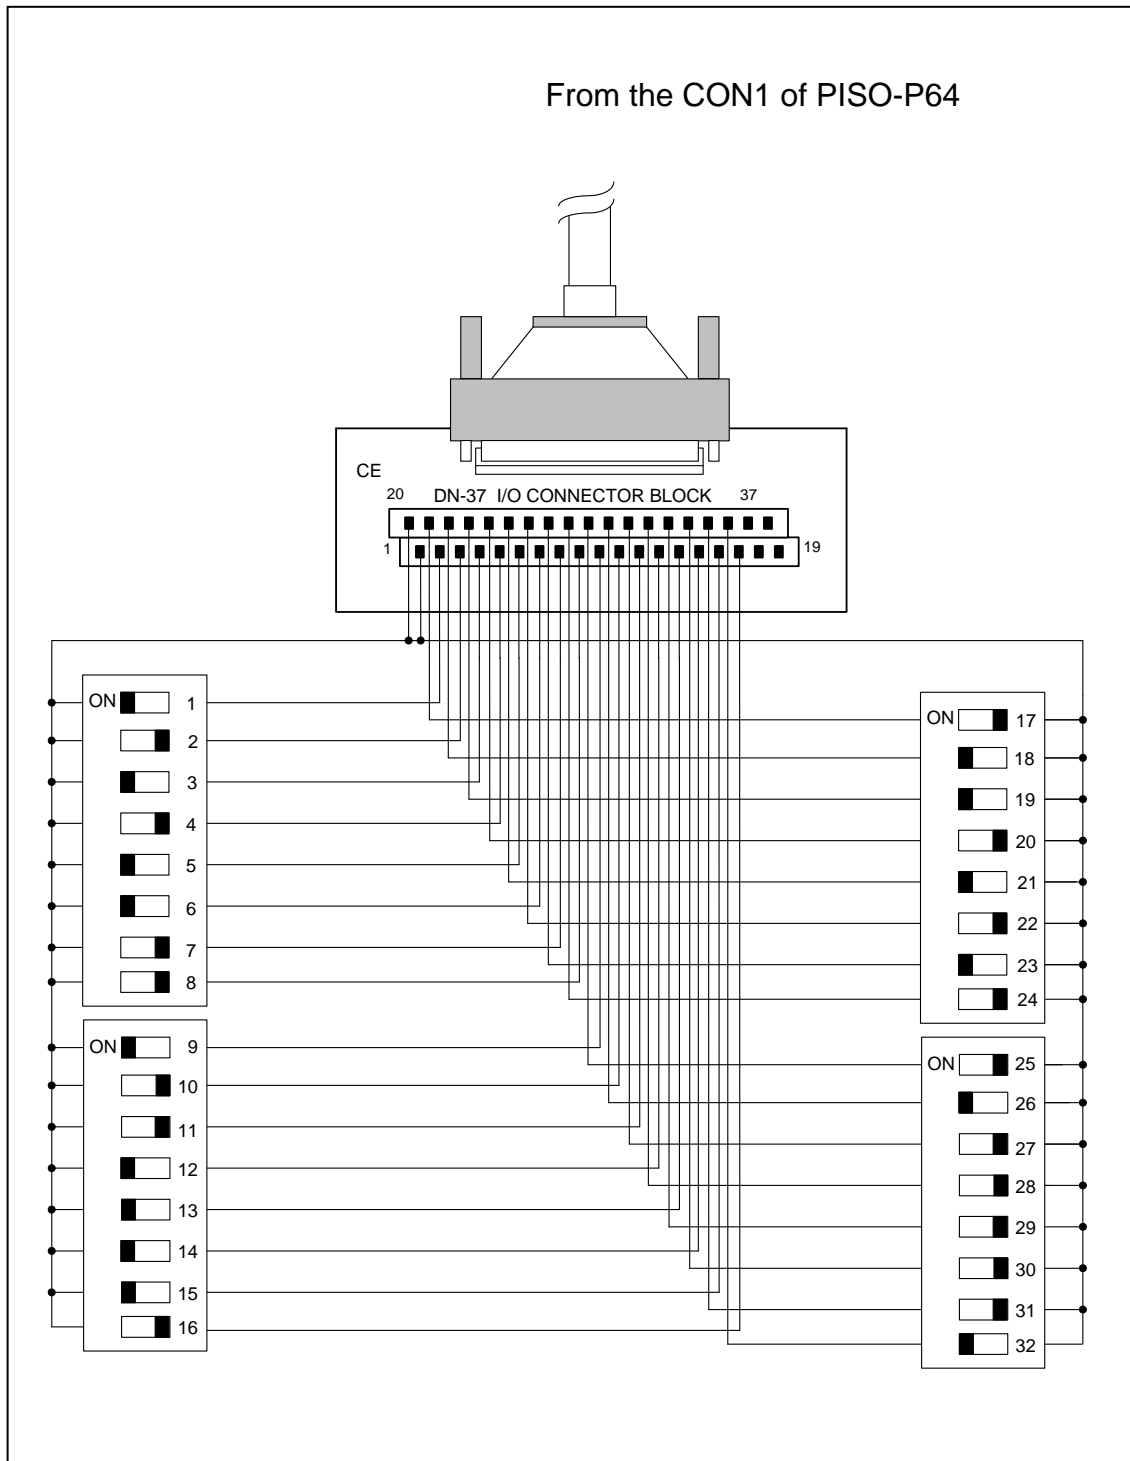

Figure 4-2-2. The circuit diagram of external device 2 for the digital inputs of PISO-P64
- Refer to Figure 4-2-2 for the circuit diagram of external device 1